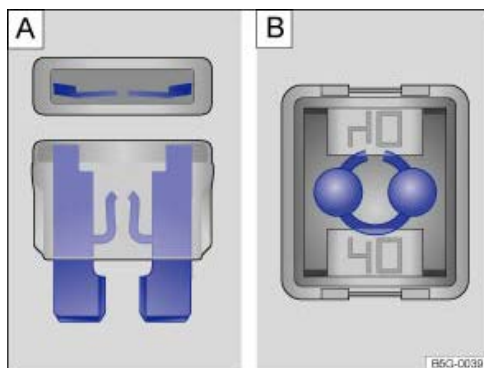

Fig. 243 Blown fuse: flat blade fuse, JCASE® fuse.
- If a *flat blade fuse* (ATO®, MIN®) is blown, this can be recognised from the top and side through the transparent housing surrounding the melted metal strips → Fig. 243 **A**.
- If a *JCASE® fuse* is blown, this can be recognised from the top through the transparent housing → Fig. 243 **B**.